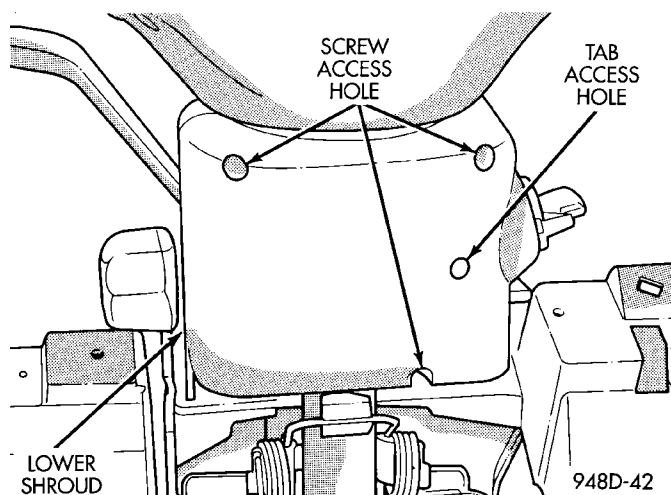

Fig. 41 Steering Column Shrouds
(1) Disconnect negative cable from battery.
(2) Place key cylinder in RUN position. Through the hole in the lower shroud, depress lock cylinder retaining tab and remove key cylinder (Fig. 41).
(3) Remove upper and lower shrouds from steering column.